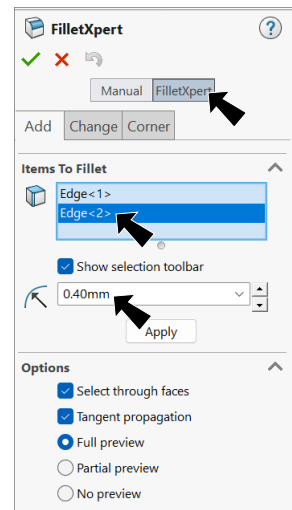

Fig. 22
① select **FilletXpert**, Fig. 22